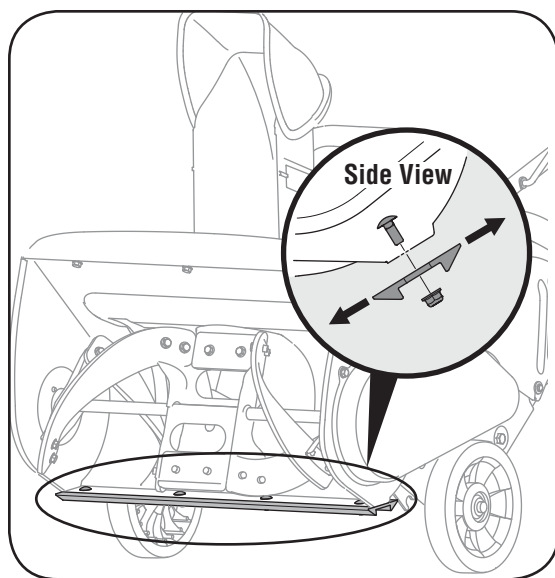

Figure 6-1
3. Loosen the four lock nuts and bolts which secure the shave plate to the housing. See Figure 6-1. Move the shave plate to desired position and retighten the nuts and bolts securely.
The shave plate is attached to the bottom of the auger housing and is subject to wear. It should be checked periodically. There are two wearing edges and the shave plate can be reversed. Refer to Figure 6-1. To replace or reverse the shave plate proceed as follows: